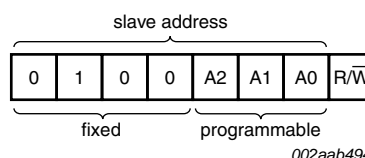

Fig 5. PCA9505/06 address
Following a START condition, the bus master must send the address of the slave it is accessing and the operation it wants to perform (read or write). The address of the PCA9505/06 is shown in Figure 5. Slave address pins A2, A1, and A0 choose 1 of 8 slave addresses and need to be connected to V_{DD} (1) or V_{SS} (0). To conserve power, no internal pull-up resistors are incorporated on A2, A1, and A0.